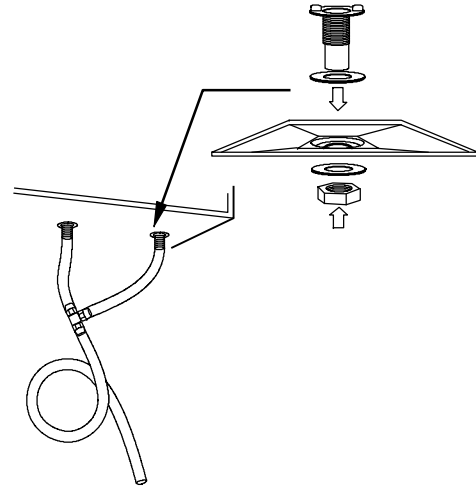

Fig. 9 - Condensate Drain With Loop Trap (HRV Only)
1. Punch out holes in foam insulation and door, then insert sleeved grommets into bottom of unit using the gasket washer and nut. (See Fig. 9.)
4. Make a loop in the tubing below the “T” connector to create a trap to prevent sewer gases from entering the ventilation system. (See Fig. 9.)